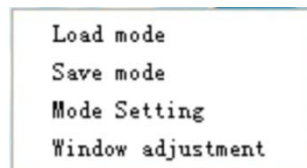

**Figure 32: Additional Function Setting**
**Communication Information:** This area is to check the connection status between the computer and VW-PIP-4P (showed in **Figure 32**) Detailed information is showed on the right side of the box.